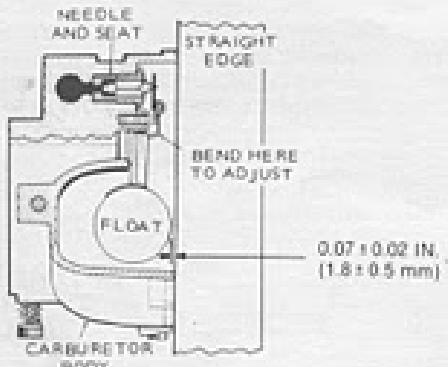

FIGURE 13. CARBURETOR FLOAT SETTING
- Invert the carburetor and check the float setting (see Figure 13). The float should have a 0.07 ± 0.02 inch (1.8 ± 0.5 mm) clearance from the machined mating surface (without gasket). Bend the float tab as required.
- If it is necessary to reset the float level, loosen the screw near float valve axle (pin) and bend the float arm near float valve axle (pin) to position float flush with top edge of carburetor float bowl. See Figure 13.